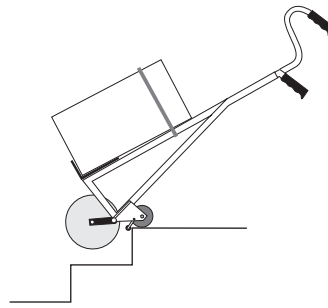

FIGURE 36
3. Push the up/down switch to "DOWN" — the **CargoMaster** starts its descent. The downward movement begins with the lowering of the big wheels to the next step (see Figure 36).